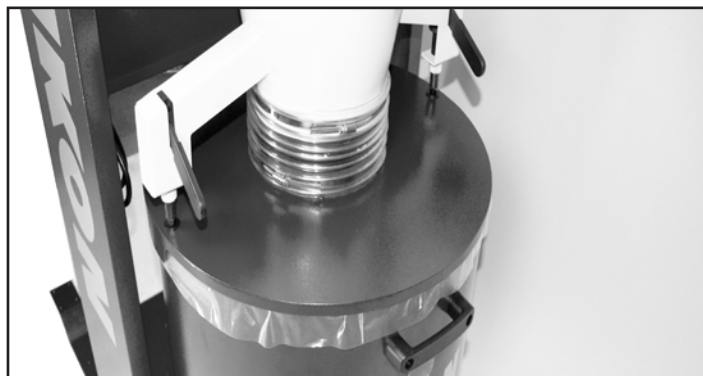

FIG. 31
1. Roll the Collection Drum into position under the Collection Drum Cover. Secure the Collection Drum Cover to the Collection Drum with the two locking handles. Fig. 31.